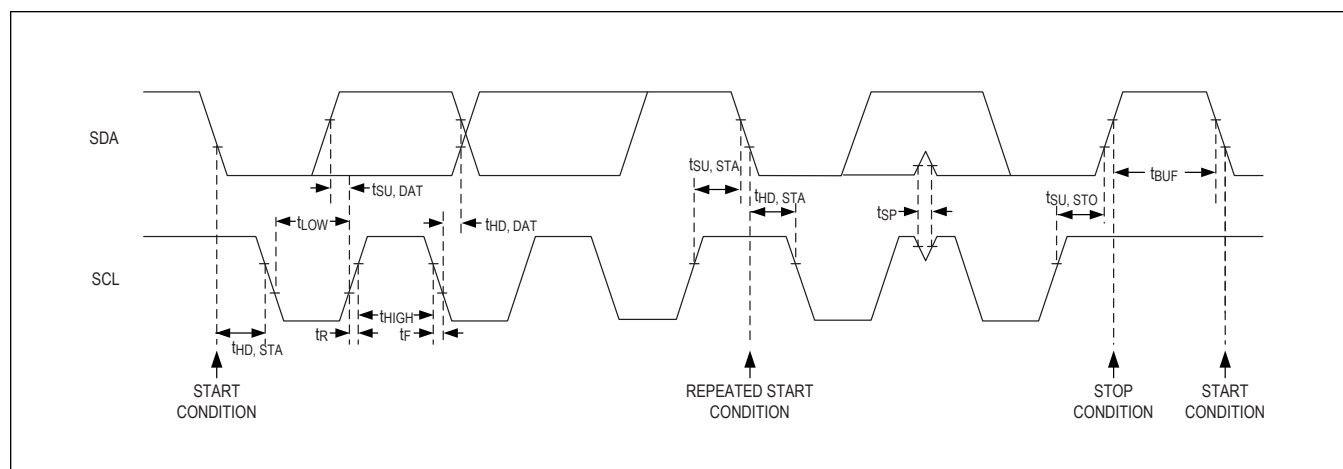

Figure 15. Detailed I²C Timing Diagram
Figure 15 shows the 2-wire interface timing diagram. The master generates SCL and initiates data transfer on the bus. The master device writes data to the MAX86171 by transmitting the proper slave address followed by the register address and then the data word. Each transmit sequence is framed by a START (S) or REPEATED START (Sr) condition and a STOP (P) condition. Each word transmitted to the MAX86171 is eight-bits long and is followed by an acknowledge clock pulse. A master reading data from the MAX86171 transmits the proper slave address followed by a series of nine SCL pulses. The MAX86171 transmits data on SDA in sync with the master-generated SCL pulses. The master acknowledges receipt of each byte of data. Each read sequence is framed by a START (S) or REPEATED START (Sr) condition, a not acknowledge, and a STOP (P) condition. SDA operates as both an input and an open-drain output. A pullup resistor is required on SDA. SCL operates only as an input. A pullup resistor is required on SCL if there are multiple masters on the bus, or if the single master has an open-drain SCL output. Series resistors in line with SDA and SCL are optional. Series resistors protect the digital inputs of the MAX86171 from high voltage spikes on the bus lines, and minimize crosstalk and undershoot of the bus signals.
The detailed timing diagram of various electrical characteristics is shown in Figure 15.